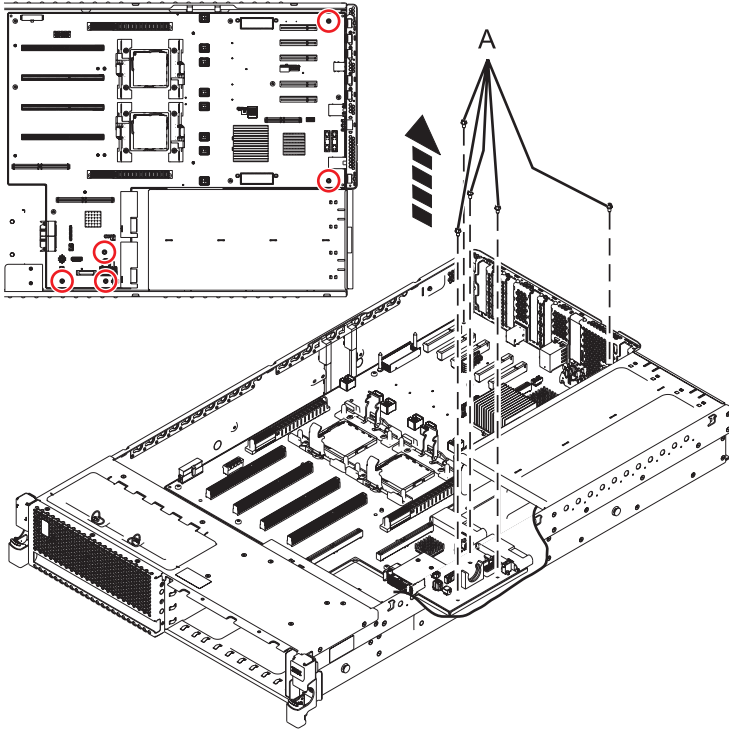
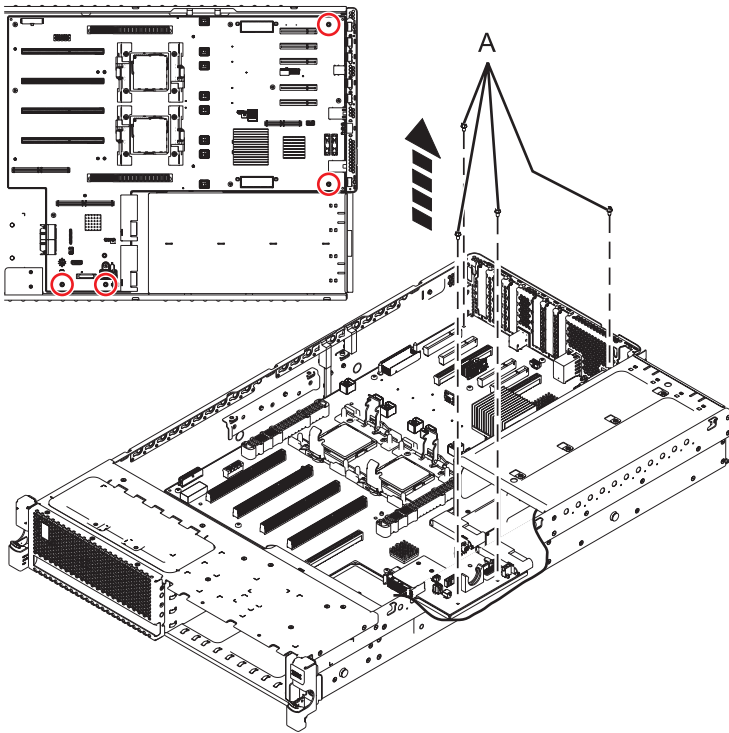

Figure 46. Removing the system backplane (five screws for 8231-E2B)
Figure 47. Removing the system backplane (four screws for 8231-E1C, 8231-E1D, 8231-E2C, 8231-E2D, or 8268-E1D)
- a. Remove the screws (A). See Figure 46 on page 58 or Figure 47 on page 58.